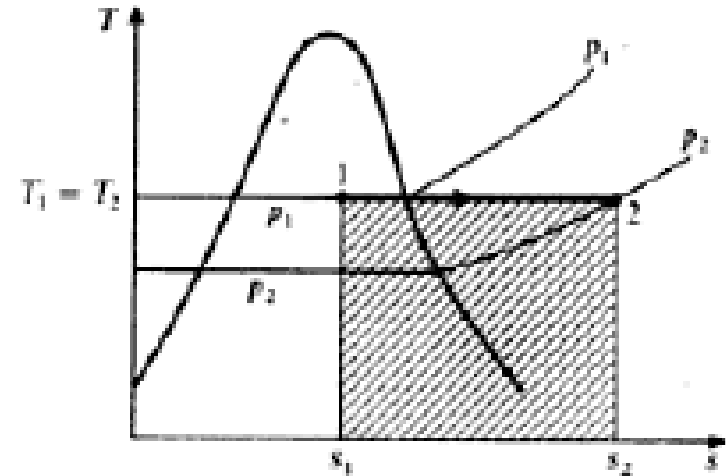

Fig. 4.14: Reversible isothermal process for steam on a T-s diagram
- For example, Fig. 4.14 shows a reversible isothermal expansion of wet steam into the superheat region.